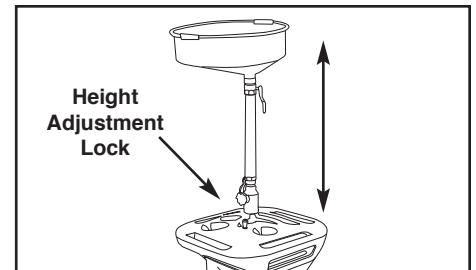

Fig. 6
- a. To raise or lower the funnel - loosen the funnel height adjustment knob and move the drain tube up or down to the desired height. **(See Fig 6)**